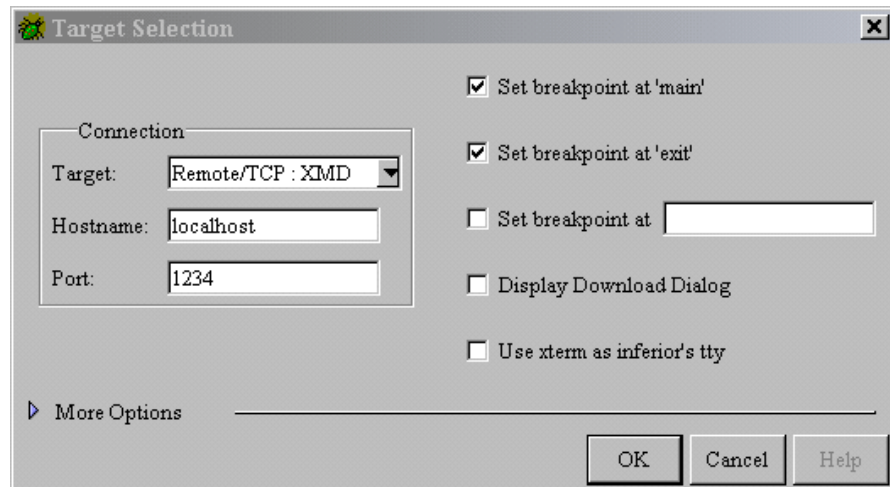

Figure 16: Target Selection
9. Configure the Target Selection dialog box to match Figure 16. Click **OK**.